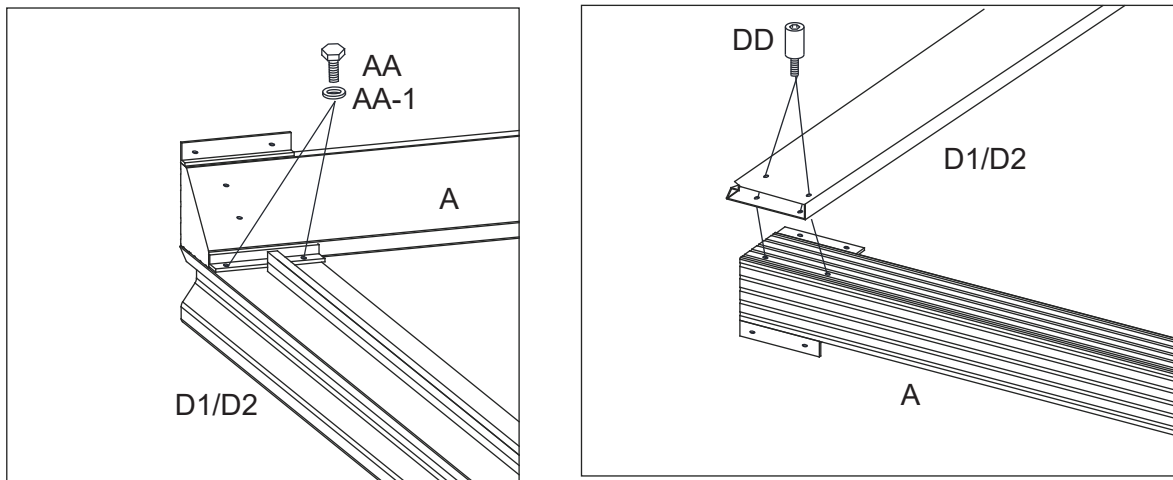

Figure 4-1
- 4.1: Attach Long Lintels (D1 and D2) to end of Corner Posts (A) first with Bolts (AA) and washer (AA-1) then with Bolts (DD). Tighten all Bolts. See Figure 4-1.